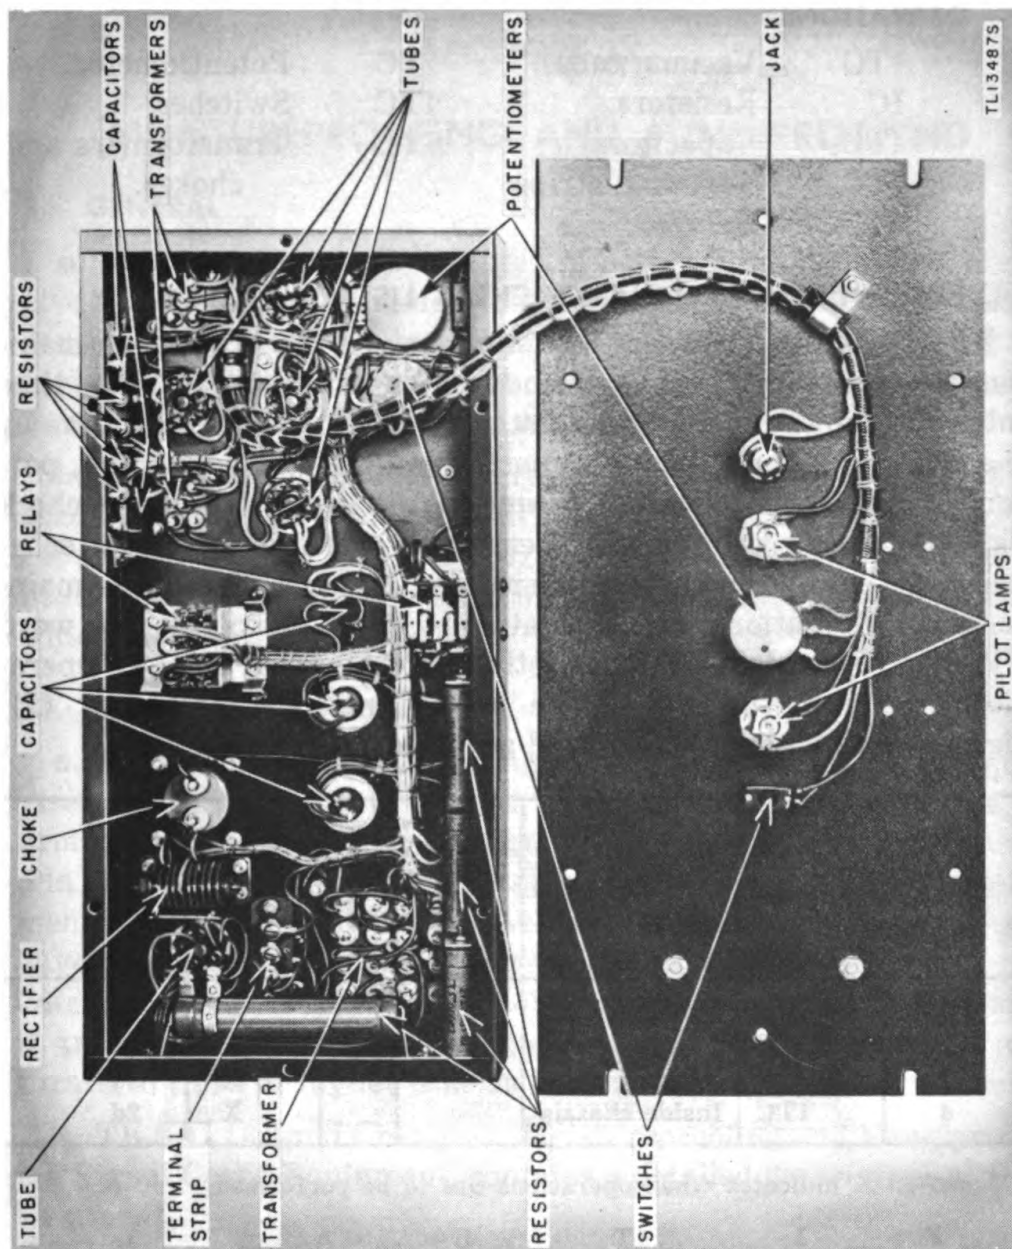

Figure 10. Keyer KY-7/FRT, inside chassis and panel, maintenance.
32. ITEM 3, REAR OF PANEL (fig. 10).
33. ITEM 4, INSIDE CHASSIS (fig. 10).